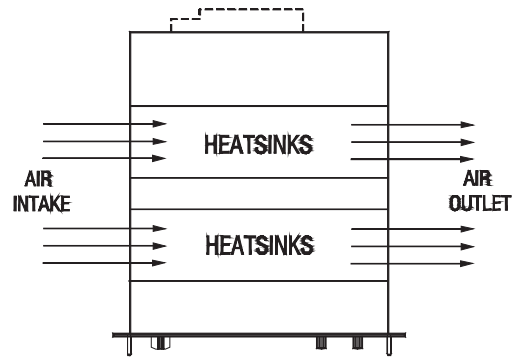

fig. 4 - 13
- The internal construction of the power supply is such that no dust will reach the sensitive control circuitry, only the heat sinks in a tunnel will be cooled by forced air, see fig. 4 - 13